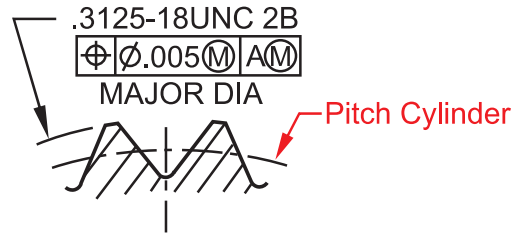

Figure 6
4.5 Thread Pitch Cylinder – The GD&T tolerance stated in a feature control frame for a threaded feature is understood to apply to the axis of the pitch cylinder. The pitch cylinder axis is an imaginary axis passing through the center of the thread profile. Measuring the axis of the pitch cylinder for GD&T Perpendicularity or Position is very time consuming and requires special measuring equipment. It is preferred that the words MAJOR DIA or MINOR DIA be specified under the feature control frame. In the Figure 6 example, the thread axis of the major diameter must fall within the .005 cylindrical tolerance zone for Position to datum “A”. Datum “A” could be the axis of a shaft.